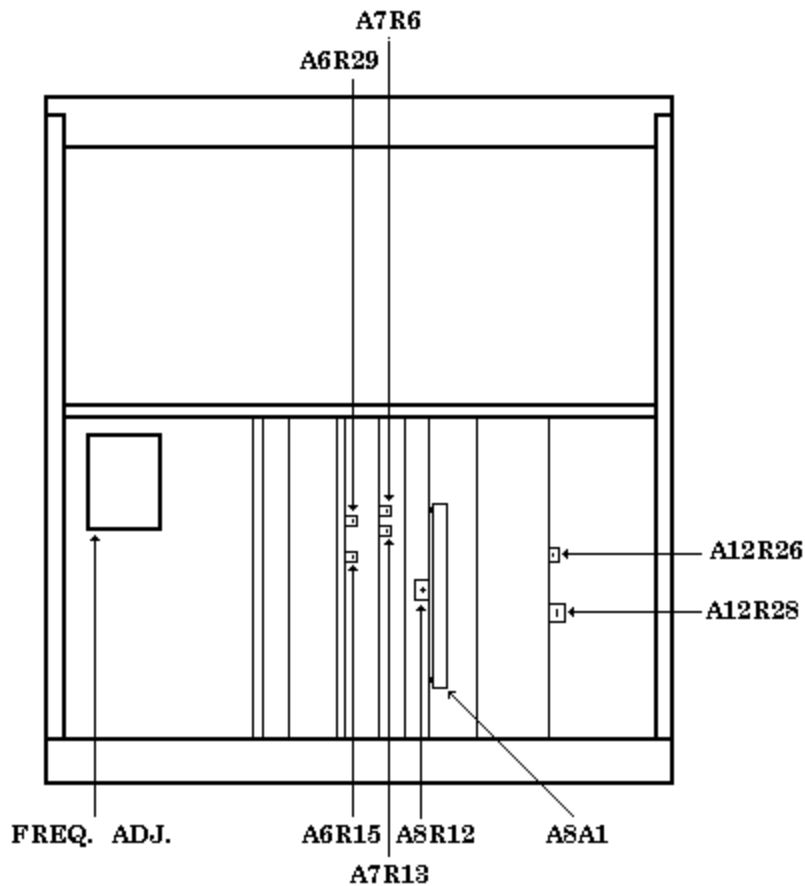

Figure 1. Test instrument - top view.
- (1) Connect time/frequency workstation **OUTPUT 1 MHz** to frequency difference meter **REF INPUT**.
- (2) Connect TI rear panel **10MHz OUT** to frequency difference meter **SIG INPUT**.
- (3) Adjust **FREQ ADJ** (fig. 1) for minimum difference indication on frequency difference meter. Record frequency difference meter indication.
(4) After 24 hour stabilization, frequency difference meter indication will be <5 parts in  $10^{10}$  of indication recorded in (3) above. Record frequency difference meter indication.
(1) Connect signal generator **OUTPUT RF** to TI **INPUT A** using 50 $\Omega$  feedthrough termination.
(2) Set signal generator for a 100 MHz, 50 mV output.
(3) Slowly decrease signal generator amplitude to 25 mV while adjusting A12R28 (fig. 1) to obtain a stable indication of applied frequency (R). Continue decreasing signal generator amplitude while adjusting A12R28 (fig. 1) until maximum sensitivity is achieved.
(1) Connect signal generator **OUTPUT RF** to TI **INPUT B** using 50 $\Omega$  feedthrough termination.
(2) Set signal generator for a 40 MHz, 50 mV output.
(3) Slowly decrease signal generator amplitude while adjusting A12R26 (fig. 1) for a stable TI 4.00000 indication. Continue decreasing signal generator amplitude while adjusting A12R26 (fig. 1) until maximum sensitivity is obtained (R).
(1) Set TI **RESOLUTION, N** switch to **.1kHz**.
(2) Adjust A8R12 (fig. 1) fully ccw.
(3) Set signal generator for a 1299 MHz, 100 mV output. Slowly decrease signal generator amplitude while adjusting A8A1 (fig. 1) R22 for maximum sensitivity (at least 20 mV) and a stable indication at approximately 1299 MHz (R).
(4) Set signal generator for a 90 MHz, 100 mV output. Slowly decrease signal generator amplitude until TI displays erroneous indications above 100 MHz (Example: 101.nnnnn).
(5) Adjust A8R12 (fig. 1) until TI stops gating (R).
(6) Set signal generator for a 90 MHz, 125 mV output.
(7) Connect multimeter **INPUT HI** to A8A1 (fig. 1) pin 1 and **LO** to ground.
(8) Adjust A8A1 (fig. 1) R13 until multimeter indication switches from approximately 12 to 15 V dc to 10 V dc (R).
- (1) Adjust DVM zero A6R28 (accessible through a hole in TI front panel) for a TI indication between -0.0001 and +0.0001 (R).
- (2) Adjust A7R13 (fig. 1) for a TI indication between +9.4999 and +9.5001 (R).
- (3) Adjust A7R6 (fig. 1) for a TI indication between -9.4999 and -9.5001 (R).
- (4) Adjust A6R29 (fig. 1) for a TI indication between +94.999 and +95.001 (R).